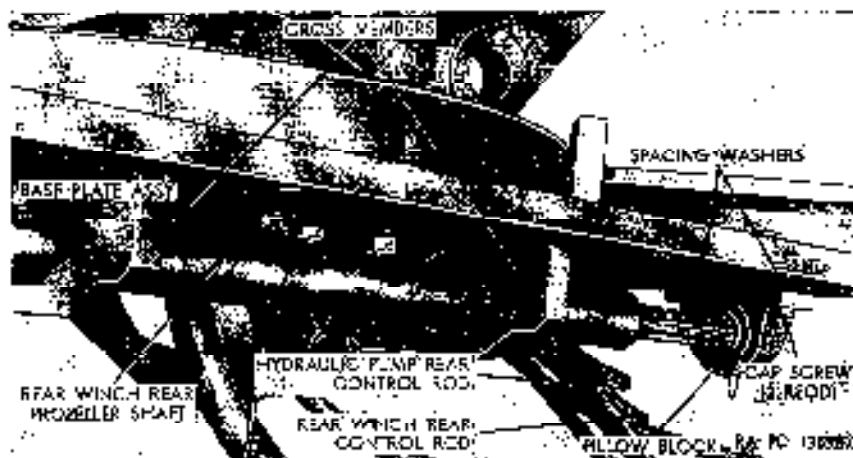

Figure 274. Right side view of underside of crane base plate removed from vehicle 402.
(1) Preliminary procedures and test.
- Remove chain and hook assembly from winch cable and pull cable from between tension sheaves (M, fig. 274).
- (1) Remove rear winch (a above).
- (2) Remove four cap screws (Q, fig. 274) and lockwashers securing cable tensioner to rear axle (S, fig. 274).
- (3) Remove four cap screws, four lockwashers, and two hex nuts securing cable tensioner to end frame (K, fig. 274), and remove tensioner from winch.
- (1) Position cable tensioner on rear of winch, and align holes in right tension shackle-frame bracket and end frame (K, fig. 274).
- (2) Install four cap screws, four lockwashers, and two hex nuts in holes in bracket and end frame. Tighten screws and nuts.
- (3) Install four cap screws (Q, fig. 274) and lockwashers in holes in left tension-sheave-frame bracket (N, fig. 274) and gear case (S, fig. 274), and tighten screws.
- (4) Install winch (b above).